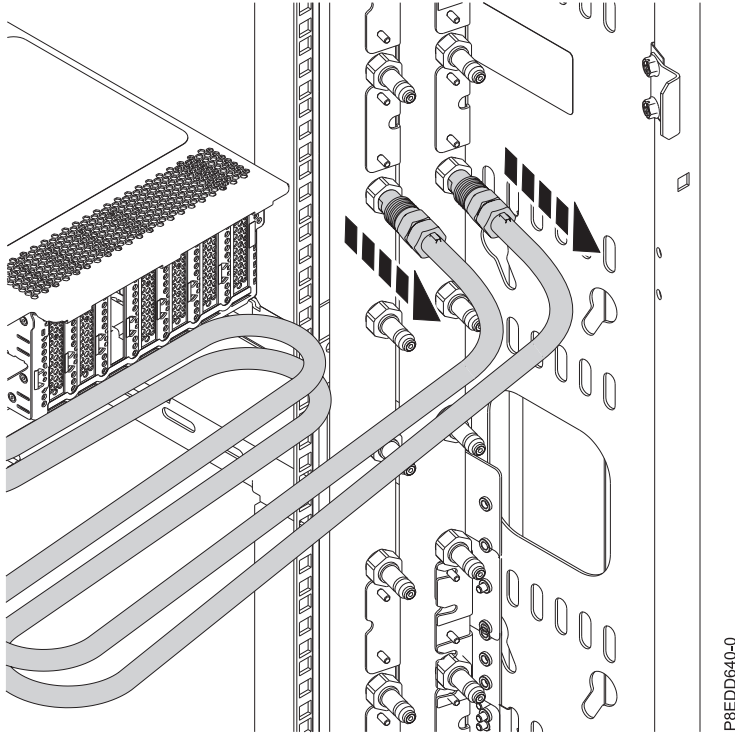

Figure 222. Disconnecting the water hoses
2. For a water-cooled system, label and disconnect the water hoses at the manifold. Pull the coupling toward you to disconnect the water hoses as shown in Figure 222 on page 207.